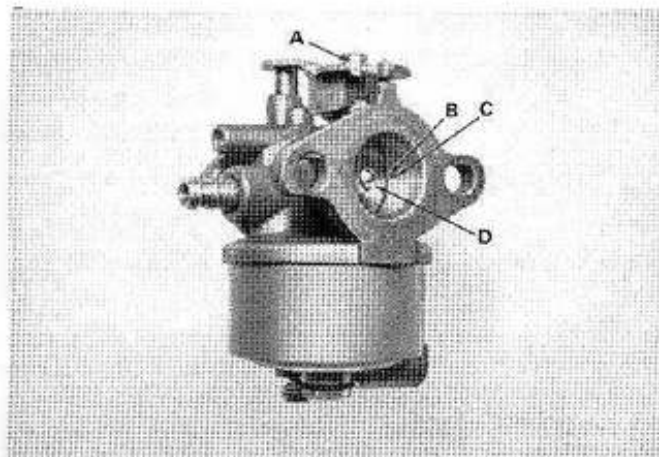

Figure 90. Carburetor Throttle Plate Inspection.
- a. Turn the throttle shaft disc (A) until the throttle plate is completely closed. (See Figure 90.)
- b. The primary idle fuel passage (C) and the secondary idle fuel passage (B) are located in the carburetor throat. (See Figure 90.) If the throttle plate is not binding, only the primary idle fuel passage (C) should be visible.
- c. If both passages are visible, backout screw (B) (Figure 88.) until it is not making contact with the stop on the throttle shaft disc (A) in Figure 90.
- e. To obtain proper throttle plate positioning, hold the carburetor in its normal operating position and loosen screw (D). (See Figure 90.)
With the carburetor held in its normal operating position (See Figure 90.), the throttle plate will pitch in on the right and out on the left in the carburetor throat, as you are looking at the throttle plate.